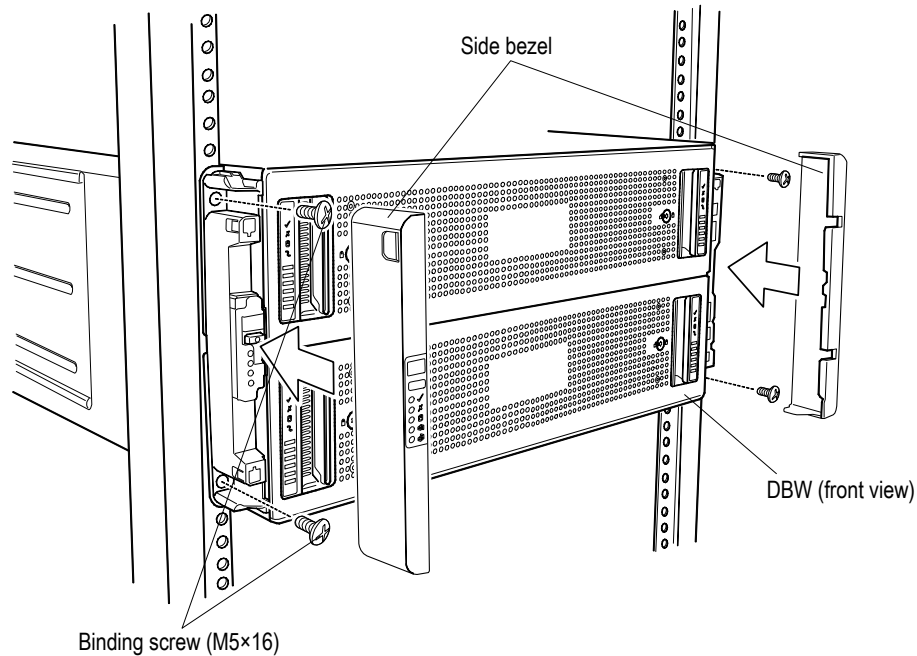

Figure 2.4.22.1 Fixing the Front Side of the Array (Drive Box (5U))
- (d) Fasten the rear side of the array and the bracket with the binding screws (M5×16) (two each for right and left) (Refer to Figure 2.4.22.2.)